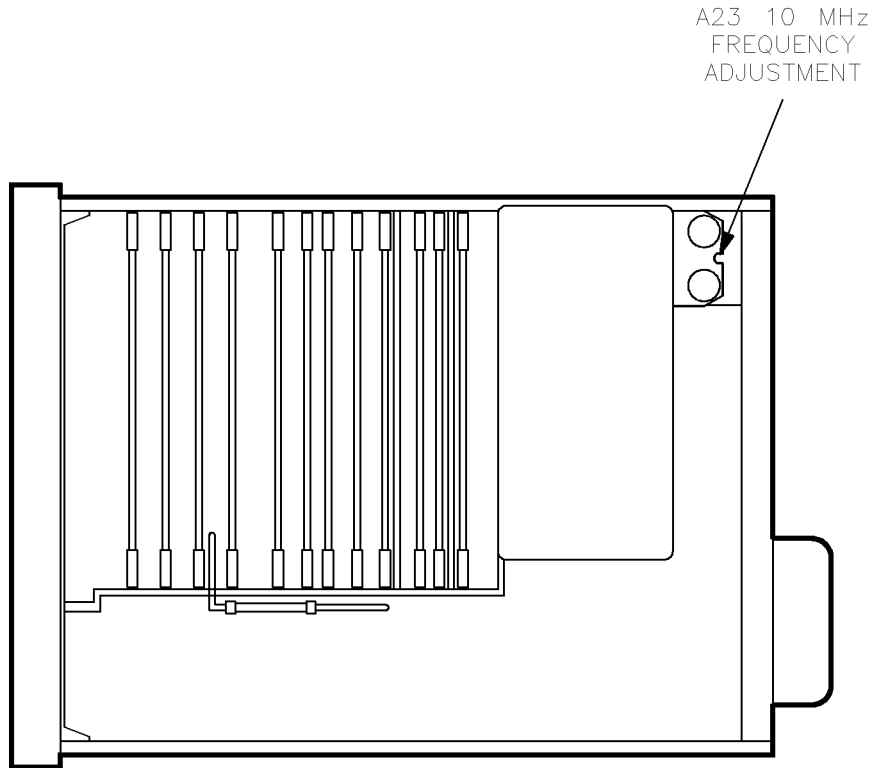

Figure 3-2. 10 MHz Standard Adjustment Location
- Using a non-metallic tool, adjust the A23 10 MHz standard (see Figure 3-2) for minimum horizontal movement of the oscilloscope waveform.